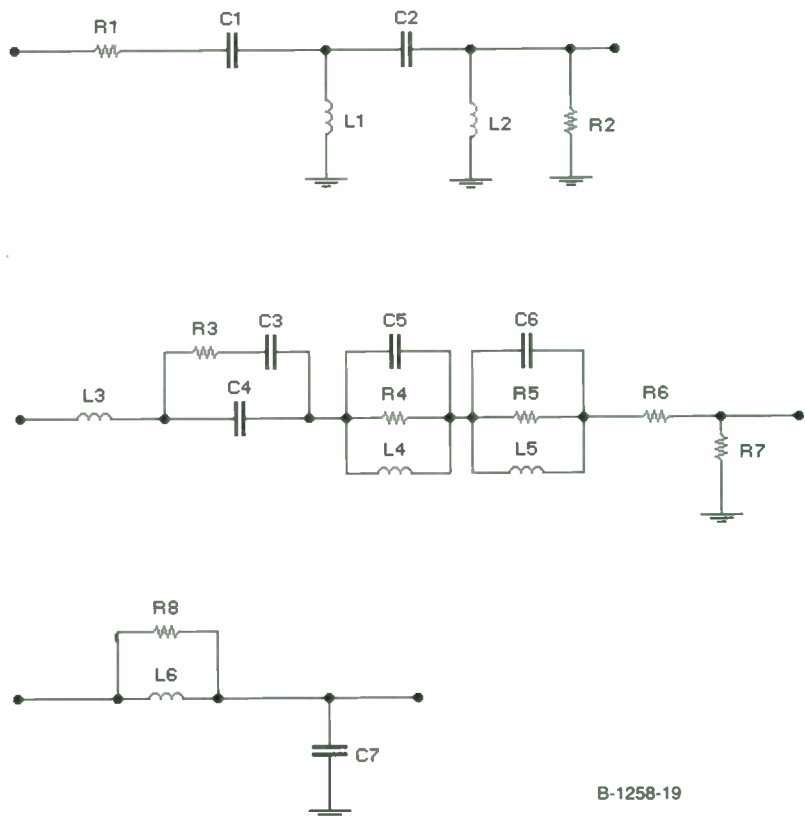

FIGURE 19: Crossover schematic.
- Use the same crossover. *Figure 19* is the crossover schematic, and *Table 1* is the parts list.